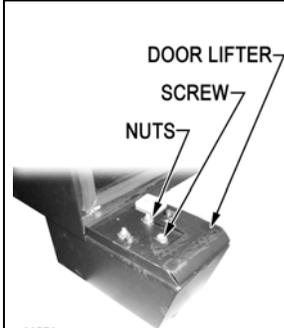
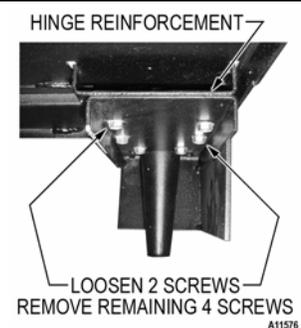

Figure 4c. Left Front Leg
Figure 4d. Remove Left Reinforcement Plate
4. **Retract the Front Legs** - Start with the Left Front Leg. From underneath the machine, loosen the two screws shown in Figure 4d. Remove the remaining 4 screws and also the large screw shown in Figure 4c. Remove the Left Hinge Reinforcement and the Door Lifter. Save all parts for step 5. Push the Left Front Leg in so that it is flush with the cabinet. Tighten the two (2) screws underneath.
install the four (4) large screws (saved from step 4) through the bottom. Reinstall the Door Lift on top. Install the nuts and large screw (Figure 4c). Tighten all fasteners.